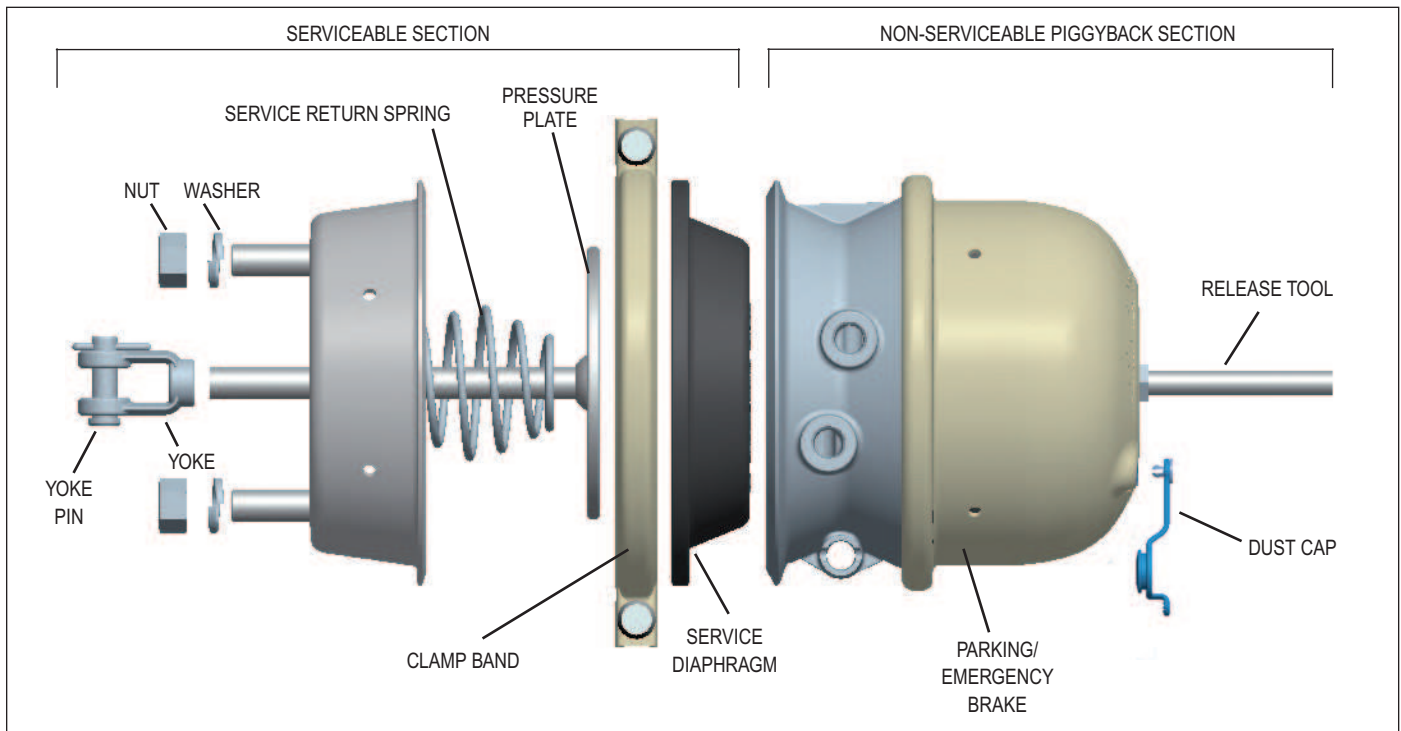

FIGURE 4 - EXPLODED VIEW SHOWING SERVICEABLE AND NON-SERVICEABLE PORTIONS OF THE BRAKE
6.0.9 Rotate the release bolt nut clockwise until an increased resistance is encountered. This should indicate that proper caging is complete. The release bolt should be extended all the way back, as shown in Figure 4. (DO NOT OVER TORQUE RELEASE BOLT. OVER TORQUING CAN CAUSE SPRING BRAKE DAMAGE.)
IMPORTANT: To ensure the power spring is fully caged, the extended release tool length should be fully backed out as shown in Figure 4.